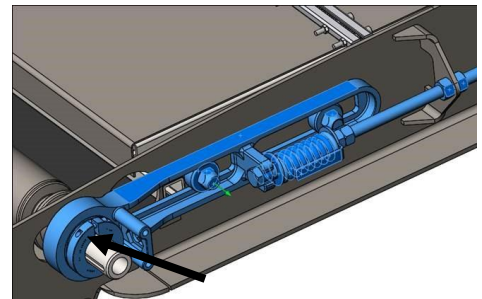

Figure 10
- Install the left-hand slide assembly onto the idler roller, Figure 10. Align the v-guide on the idler roller with the v-guide on the drive roller. Make certain that the roller is not rubbing on the deck frame. Tighten the torx-head screws in the collar to 97 in. lbs.